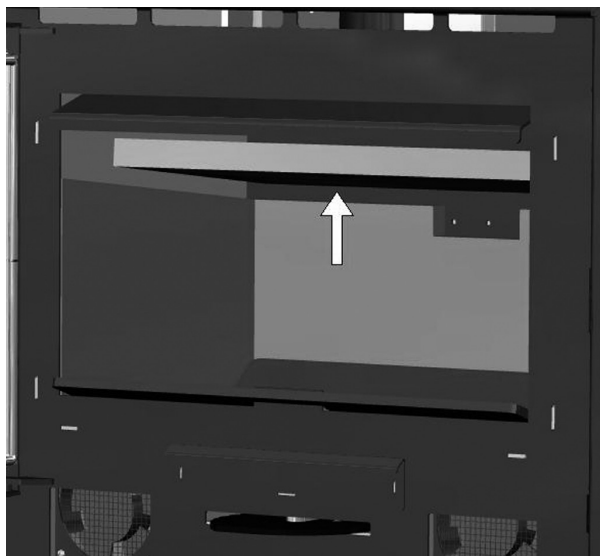

FIG. 6
- Slide the deflector up, lift one side more than the other until it can be pulled down between the two dollies and remove from the fireplace. Pay attention to the vermiculite, it is very fragile (Fig. 6 - 7 - 8).